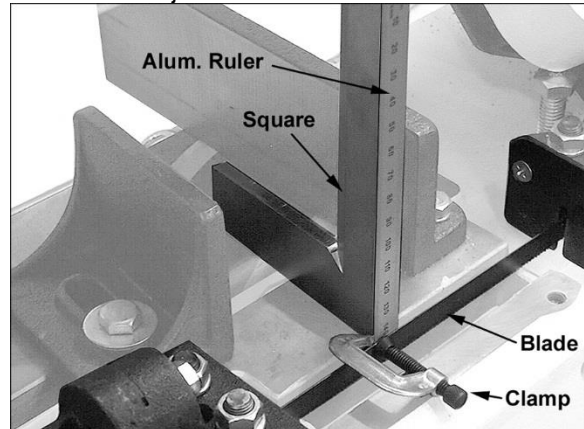

Figure 8-14: table/blade squareness
1) “Extend” the blade surface by clamping a straight, flat object to blade. (Figure 8-14 uses small, lightweight aluminum ruler.) Use lightweight clamp.